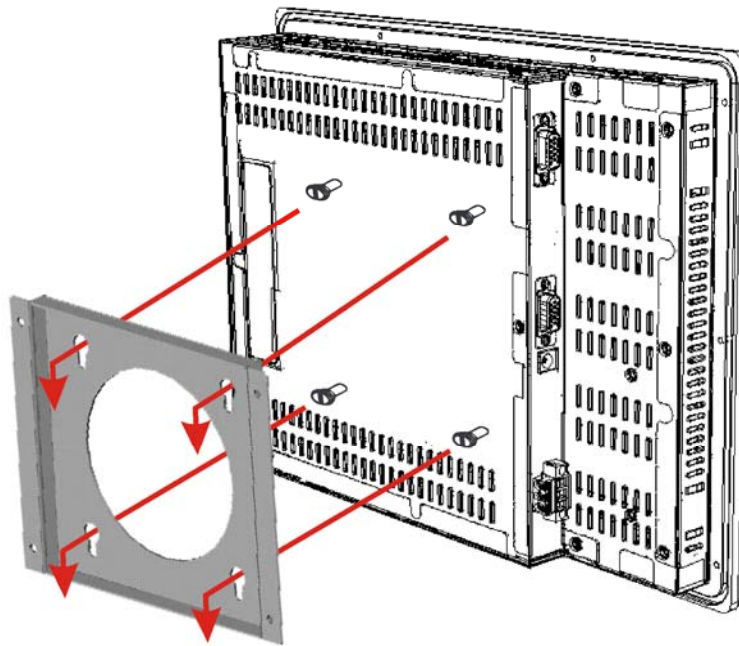

Figure 5-29: Wall Mounting the Monitor
- Step 8:** Carefully insert the screws through the holes and gently pull the monitor downwards until the monitor rests securely in the slotted holes (**Figure 5-29**). Ensure that all four of the mounting screws fit snugly into their respective slotted holes.